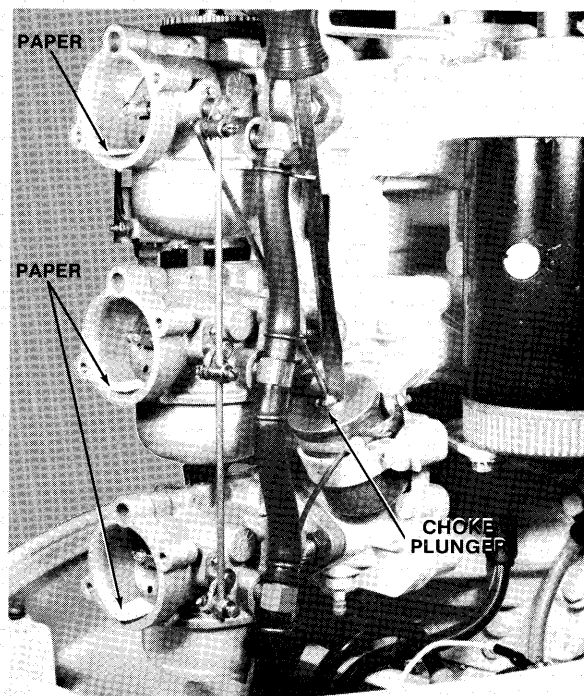

Figure 14—Closing Choke Shutters
- G. With pieces of paper in air horns of carburetors, close choke shutters fully against the pieces of paper by pushing only on choke solenoid plunger as shown in figure 14.